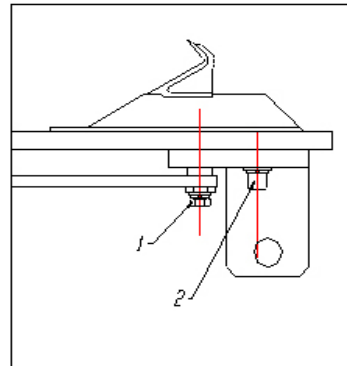

Figure 11-2
- Check if there is a drop of oil leakage every 10 times the pedal (2) is pressed down. If not, regulate using the screw (2) (figure 11-2)?
- Retighten the clamp tightening screws (1) and the screws on the turntable sliders (2).